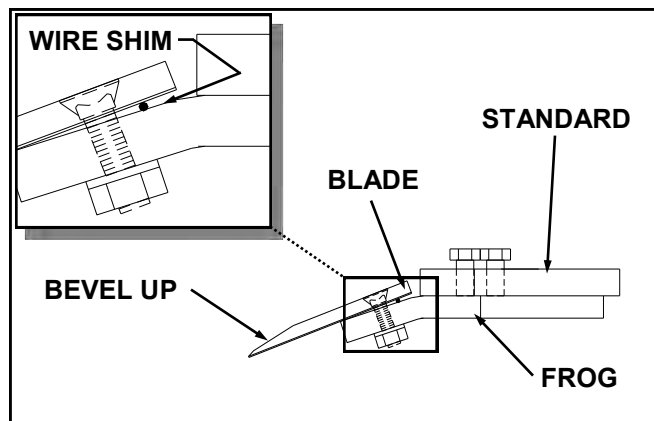

Figure 5
3. Check blade flatness (Refer to figure 5, page 7).
- (1) For dry hard soil the peanut blade should be installed with the beveled side of blade up. This gives the cutting edge of the blade a better attack angle on entry into the ground.
- (2) If after placing the blades on as recommended above and the machine will still not take the ground, we recommend placing more attack angle in the blade. This can be accomplished by placing a piece of 1/8" wire between the frog and the blade. The wire should be placed above the (3) bolts that attach the blade to the frog. Refer to the figure 5.